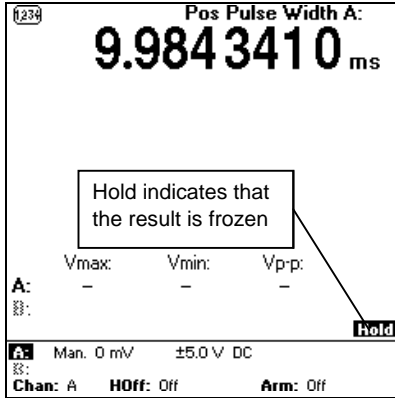

Figure 37 Single Shot.
1. Press **HOLD RUN** so that the MultiFunction Counter is in hold state (HOLD is shown in the display above the horizontal line separating the results screen from the input settings field, see Figure 37).